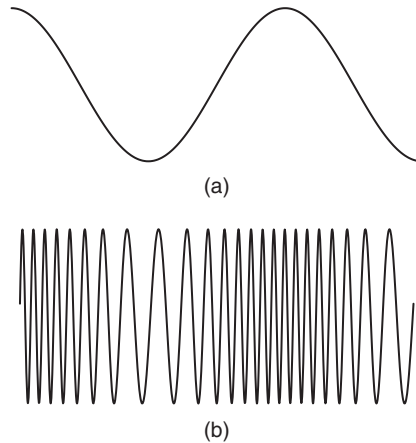

Figure 17.1 The principle of frequency modulation: (a) signal, and (b) modulated carrier
In a frequency modulation (FM) system, the amplitude of the carrier remains constant, and the effect of modulation is to change the frequency. The principle is shown in Figure 17.1. The alteration of frequency caused by a modulating signal is called the **frequency deviation**. In wideband FM systems deviations of 75kHz or more are produced. Frequency modulation is also used for short-range speech communications, such as walkie-talkie handsets used by security guards and citizens' band (CB) radio. These narrow-band frequency modulation (NBFM) systems use deviations that are limited to a few kilohertz only, with channel spacing typically around 12.5kHz.